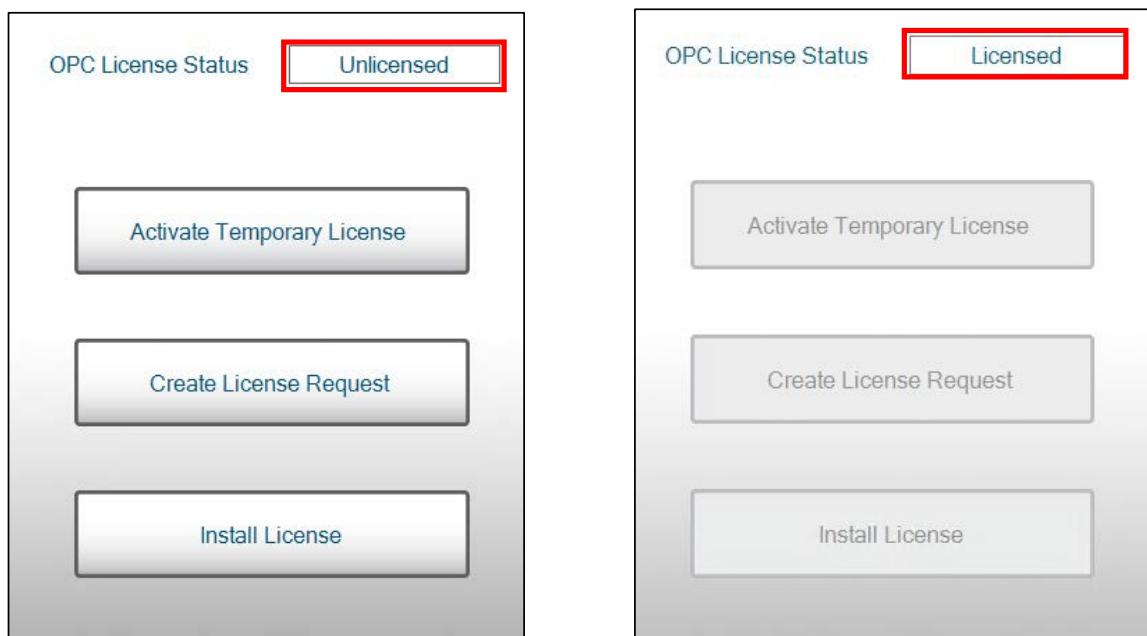

Figure 3.3 OPC License Uninstalled (left), OPC License Installed (right)
6. In the OPC License Status field, if no OPC license has been installed, it will display "Unlicensed." Conversely, if an OPC license has been successfully installed, the field will indicate "Licensed," as seen in Figure 3.3.